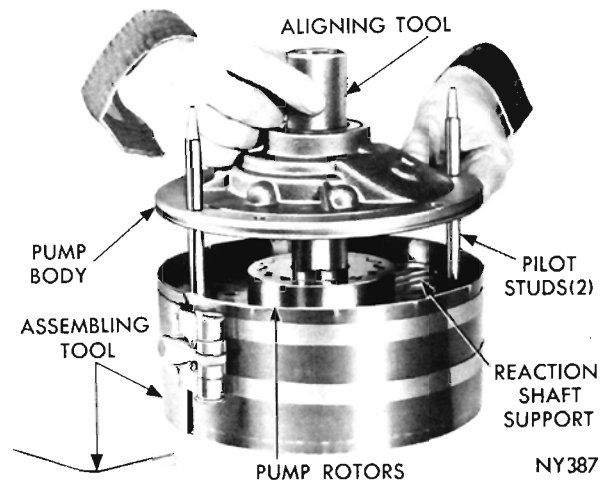

Fig. 83—Assembling Front Pump and Reaction Shaft Support
(1) Place the reaction shaft support in the assembling Tool C-3759, with hub of the support and tool resting on a smooth surface bench (Fig. 83). Screw two pilot studs, Tool C-3283 into threaded holes of the reaction shaft support flange.
(2) Assemble and place the rotors in center of the support (Fig. 83).
(3) Lower the pump body over the pilot studs, insert Tool C-3756 through the pump body and engage with the pump inner rotor. Rotate the rotors with the tool to enter the rotors in the pump body, then with the pump body firmly against the reaction shaft support, tighten the clamping tool securely.